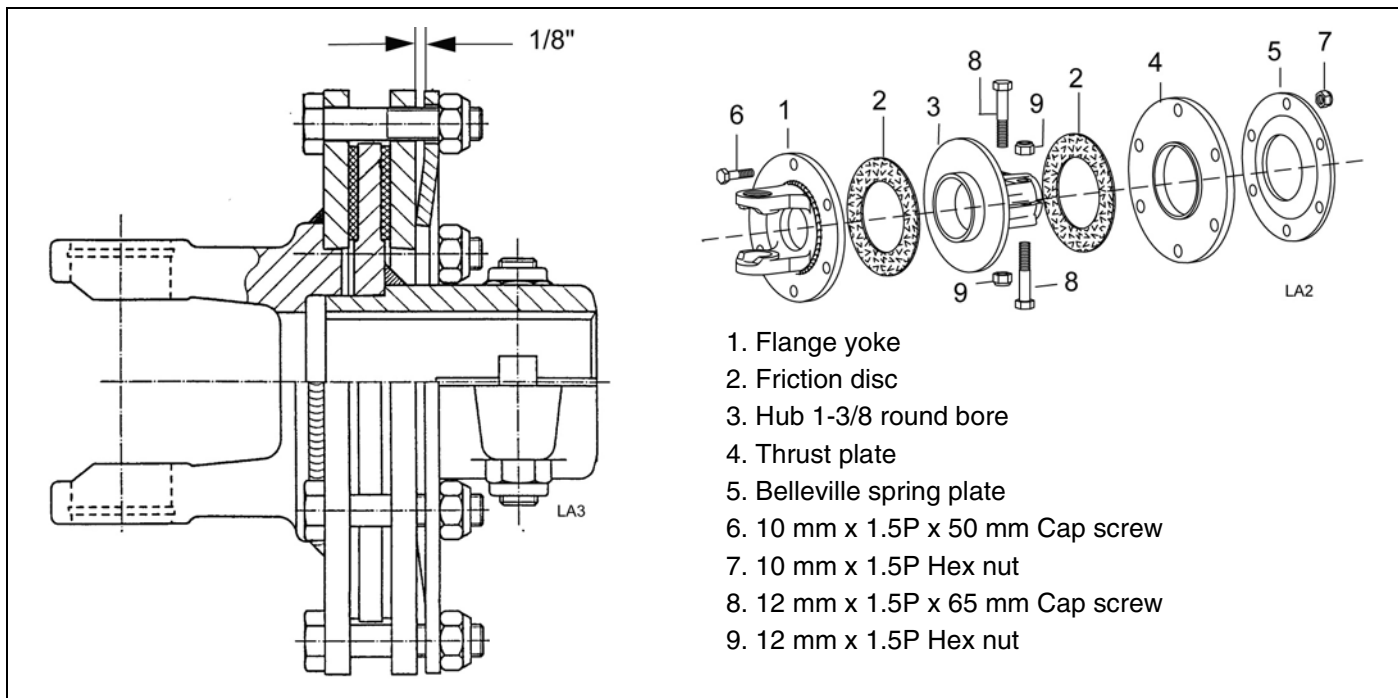

Figure 7. Slip Clutch Assembly
## SLIP CLUTCH ADJUSTMENT (Figure 7)
3. Loosen six 10 mm cap screws (6) to remove all tension from Belleville spring plate (5).
4. Hold clutch hub (3) solid and turn shaft to make sure clutch slips.
5. If clutch does not slip freely, disassemble and clean the thrust plate faces (4), flange yoke (1), and clutch hub (3).
7. Tighten Belleville spring plate (5) until it is against the thrust plate (4) of the clutch, and then back off each of the six nuts by 2 full revolutions. The gap between Belleville spring plate and thrust plate should be 1/8" as shown in Figure 7.
8. If a clutch continues to slip when the spring is compressed to 1/8" gap, check friction discs (2) for excessive wear. Discs are 1/8" when new. Replace discs after 1/16" wear. Minimum disc thickness is 1/16".